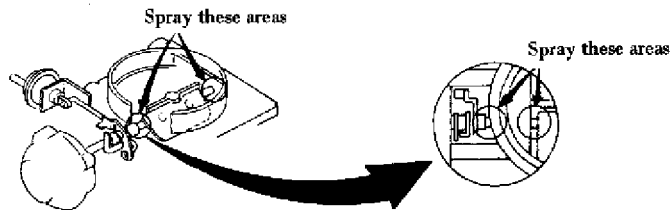

Fig. 1: Spraying Cleaner on Carburetor
2. Spray cleaning agent on choke linkage to remove dirt or grease. See Fig. 1.